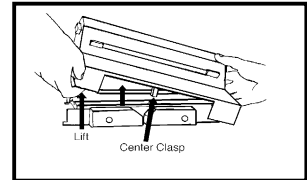

Figure 2
- Release the center clasp on the front of the cartridge, lift up on the left side and remove top cover (Fig. 2).